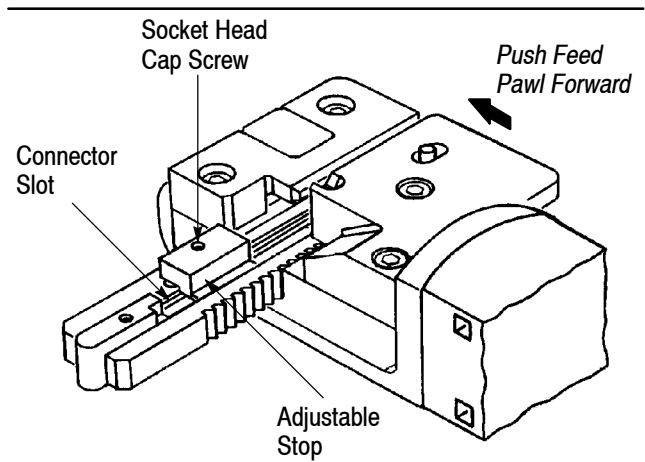

Figure 2
1. To determine the size of slot required for the connector to be terminated, push the feed pawl forward and slide the carriage to the left as far as it will go. Then loosen the socket head cap screw located at bottom side of the adjustable stop (shown in Figure 2), allowing the stop to be moved right or left.